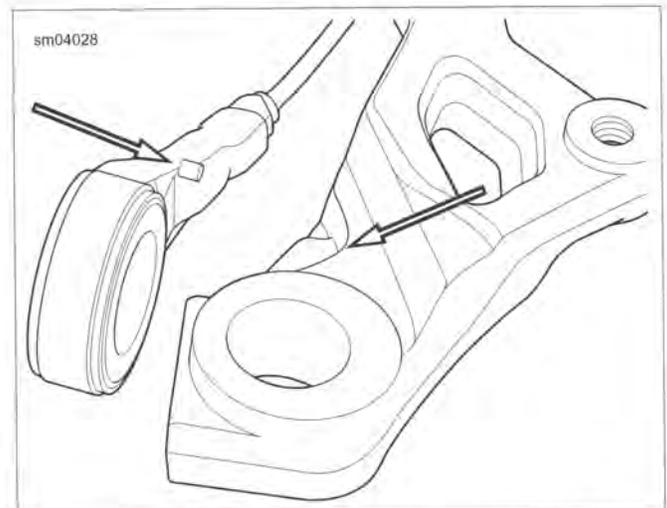

Figure 7-72. Rear Wheel Speed Sensor Index Pin
1. See Figure 7-72. Hold **new** rear WSS in place with index pin outboard toward rear fork, and push axle through sensor, caliper bracket and right side of rear fork.
2. Secure rear wheel. See 2.5 REAR WHEEL. Rotate rear WSS until index pin makes contact with caliper bracket at point shown in Figure 7-72.